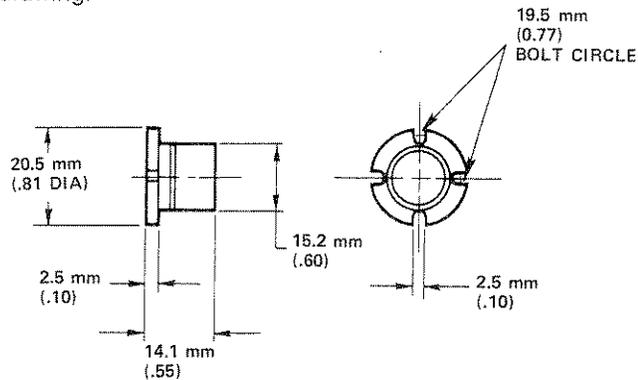

Figure 2-22. 10704A Retroreflector Specifications
- 10704A Retroreflector Specifications, see *Figure 2-22*.